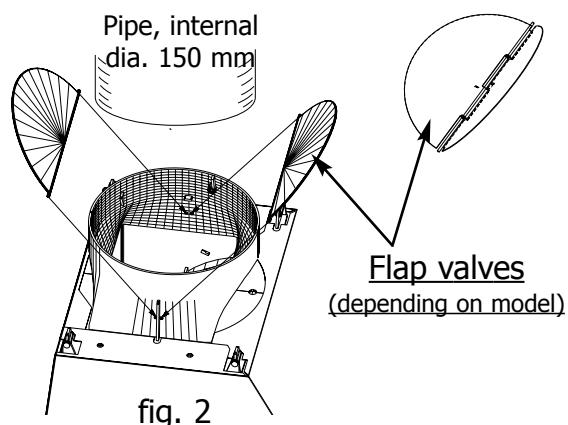

fig. 4
- In the case of a duct, dia. 125 mm, use the adapter supplied (fig.4).